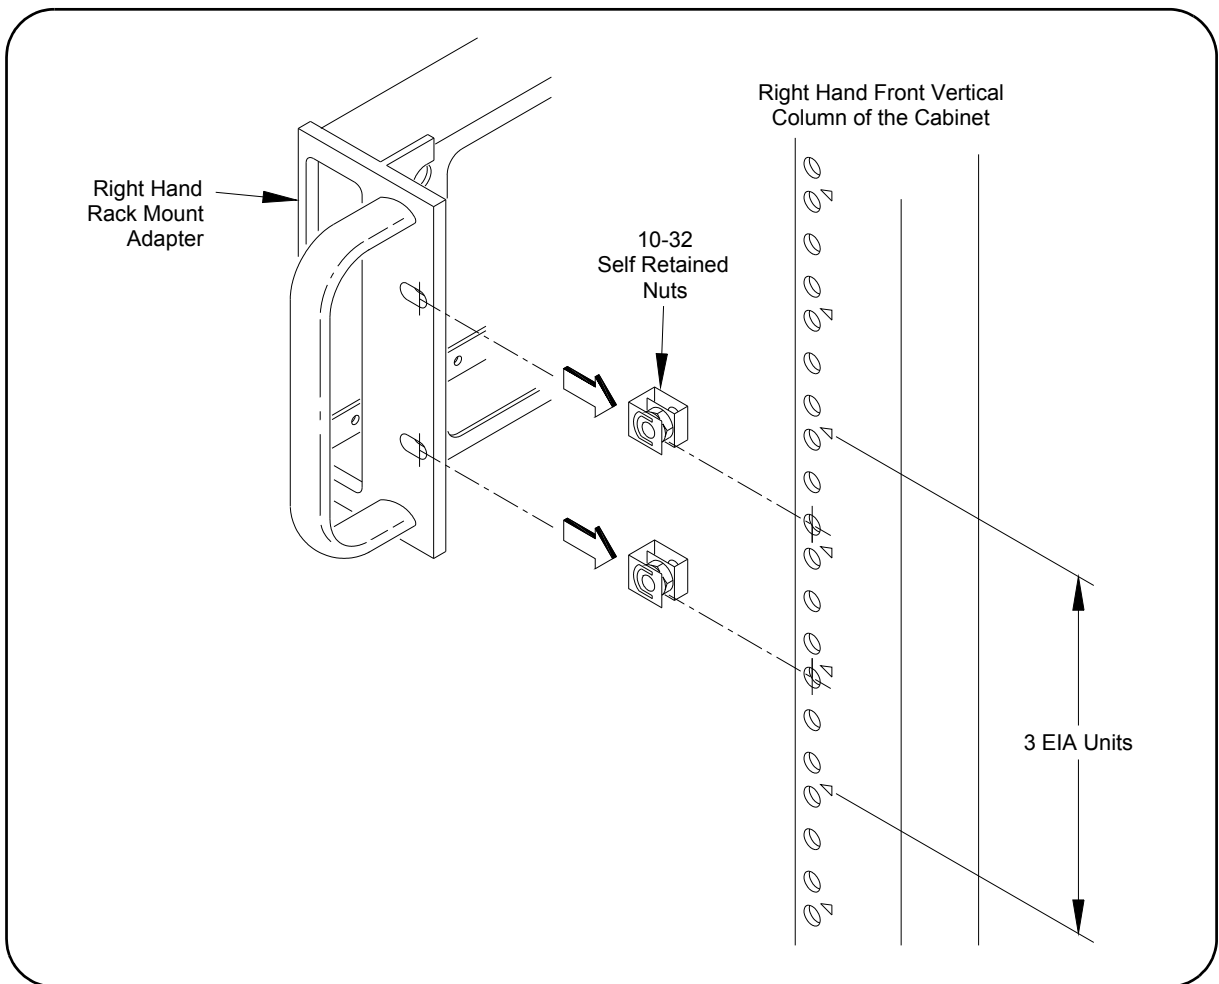

Figure 2-9. Installing Rack Mount Adapter Channel Nuts
### Install Channel Nuts for Rack Mount Adapters (Figure 2-9)
- 2 Select the holes for the LH and RH Rack Mount Adapters. See Figure 2-9 for the RH Rack Mount Adapter hole locations. (LH Rack Mount Adapter hole locations are the same.)